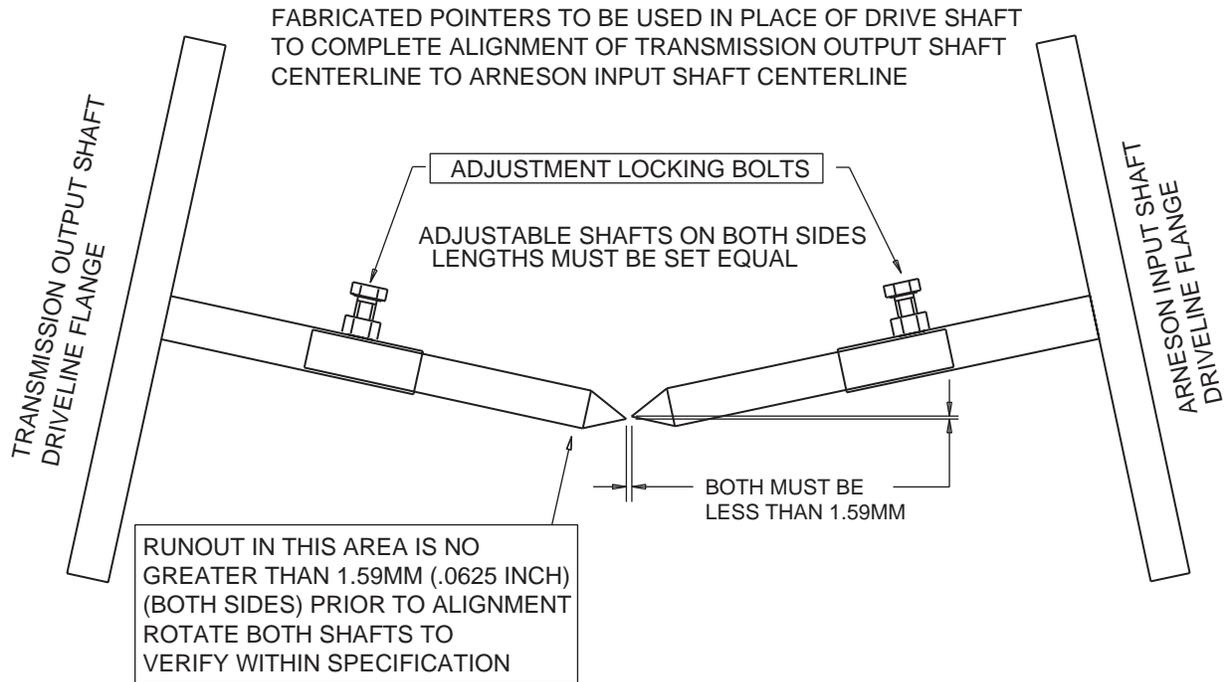

Figure 18. Remote or Island Mounted Alignment Tool, Shafts not Parallel
4. Weld the tube assemblies to the plates, making sure that the tube to plate runout is zero. This will allow for adjustment of both shafts to identical lengths. Make sure there is a tight fit between the outer tube and inner tube (the closer the fit the more accurate the alignment will be). See Figures 18 and 19.